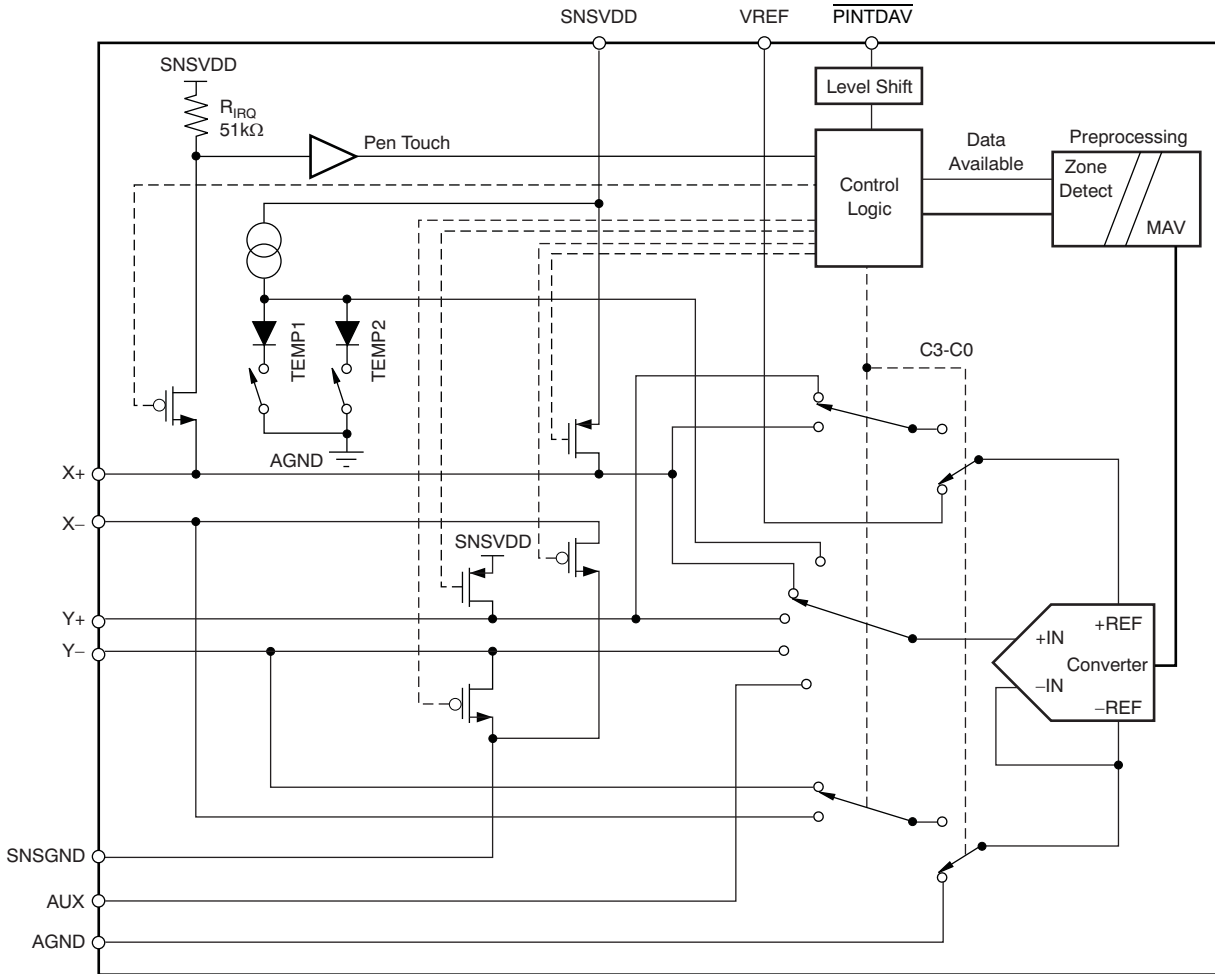

Figure 23. Simplified Diagram of the Analog Input Section
Figure 23 shows the analog inputs of the TSC2005. The analog inputs (X, Y, and Z touch panel coordinates, chip temperature and auxiliary inputs) are provided via a multiplexer to the Successive Approximation Register (SAR) Analog-to-Digital (A/D) converter. The A/D architecture is based on capacitive redistribution architecture, which inherently includes a sample-and-hold function.
- (1) Reference voltage at converter: +REF – (–REF). See Figure 23.
(2) Input voltage at converter, after multiplexer: +IN – (–IN). See Figure 23.